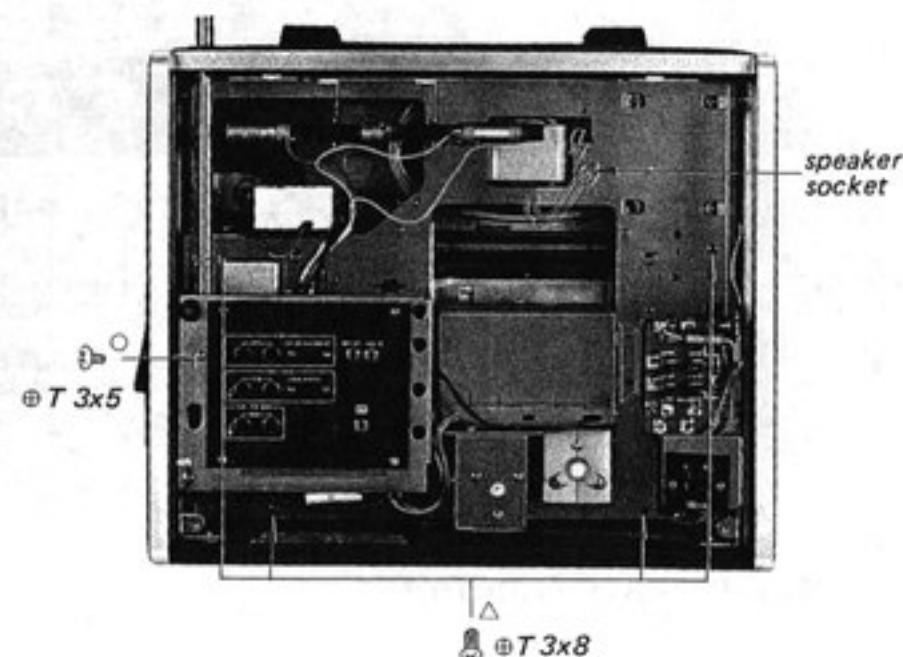

Fig. 2-3
5. Remove the four screws marked \triangle which fasten the front panel to the chassis in Fig. 2-3.
7. Remove the speaker socket as shown in Fig. 2-3.